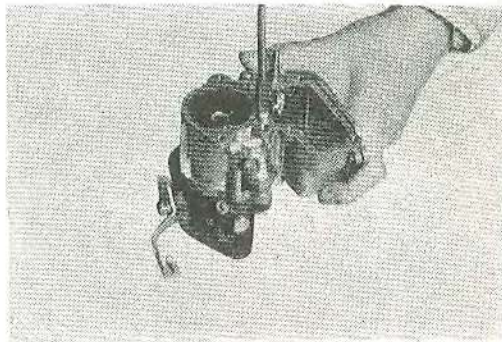

Figure 138
(12) Assemble on operating block (Fig. 138).